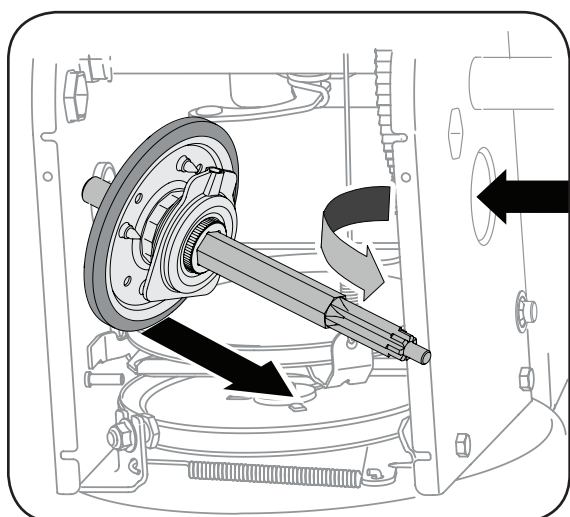

Figure 6-15
3. Carefully position the hex shaft downward and to the left before carefully sliding the friction wheel assembly off the shaft. See Figure 6-15.